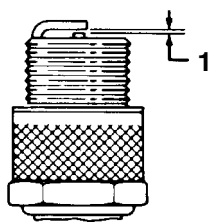

Figure 13
5. Set the gap on the plug to 0.032 in. (0.81 mm) (Fig. 13).